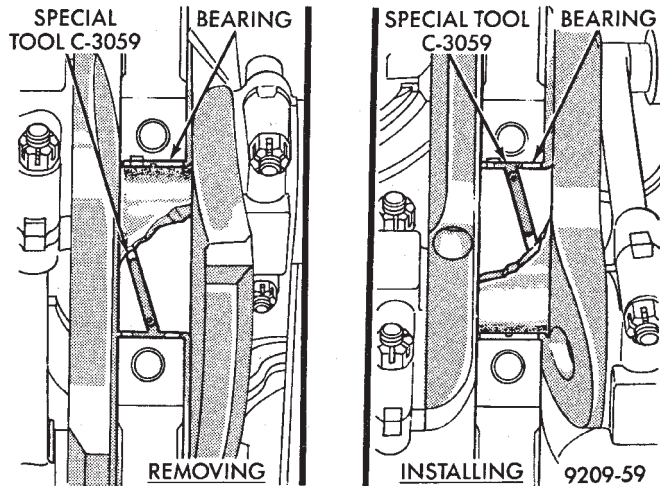

Fig. 88 Removing and Installing Upper Main Bearing With Special Tool C-3059
(1) Remove oil pan, pick-up tube, and windage tray. Refer to procedures outlined in this section. Identify bearing caps before removal.
(2) Remove bearing caps one at a time. Remove upper half of bearing by inserting Special Main Bearing Tool C-3059 (Fig. 88) into the oil hole of crankshaft.
(3) Slowly rotate crankshaft clockwise, forcing out upper half of bearing shell.
- (1) Lubricate main bearing with clean engine oil.
- (2) Start bearing in place, and insert Main Bearing Tool C-3059 into oil hole of crankshaft (Fig. 88).
- (3) Slowly rotate crankshaft counterclockwise sliding the bearing into position. Remove Special Main Bearing Tool C-3059.